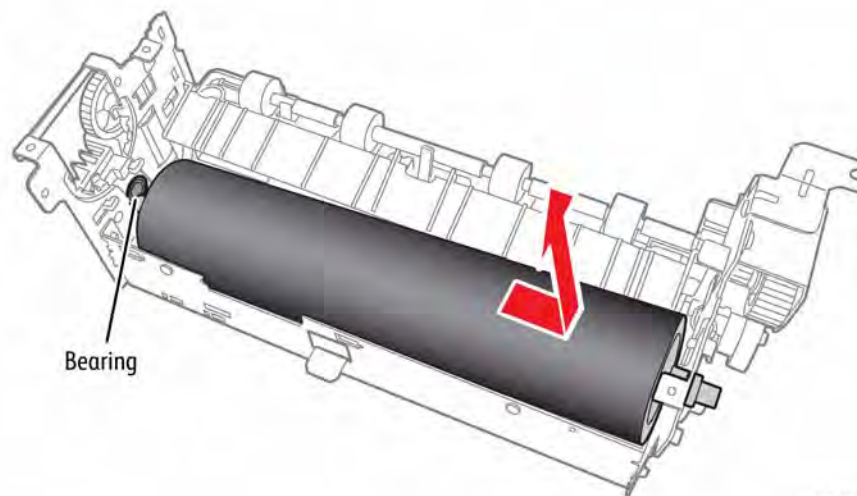

Figure 2 Remove the Pressure Roller and Bearings
7. Remove the Pressure Roller Bearings from the cam followers, Figure 2.